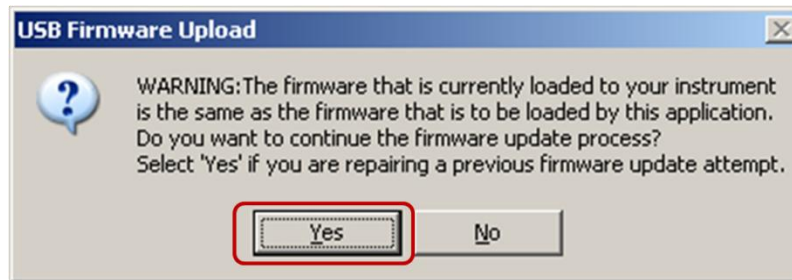

Figure 17
10. If the application detects that the firmware that is installed on the attached instrument is the same firmware that is being installed, a message will be displayed (Figure 17).